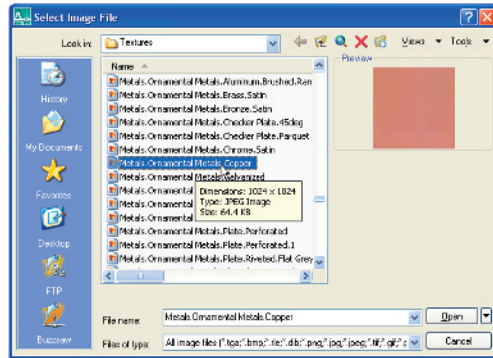

Fig. 16.18 The **Apply Material to Objects** icon
3. Right-click in the **Available Materials in Drawing** part of the palette and click the **Apply Material to Objects** icon (Fig. 16.18).